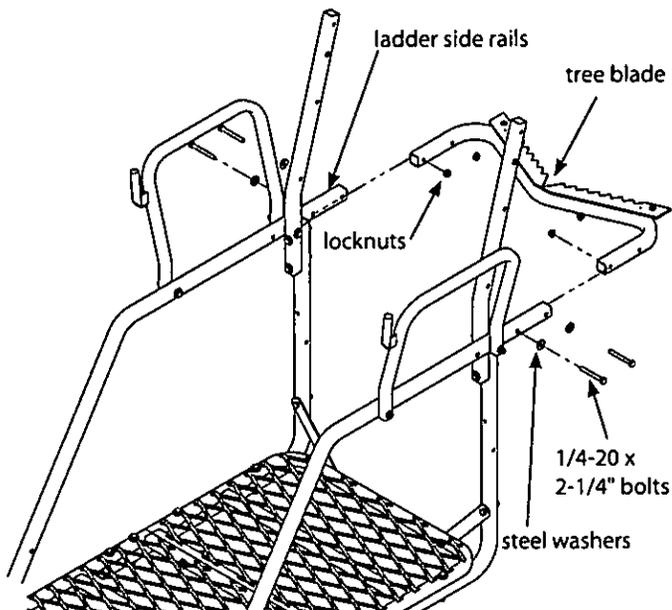

Figure 4
Attach the tree blade (410056) to the ladder side rails using (4) provided 1/4-20 x 2-1/4" bolts, locknuts and steel washers. SEE FIGURE 4.